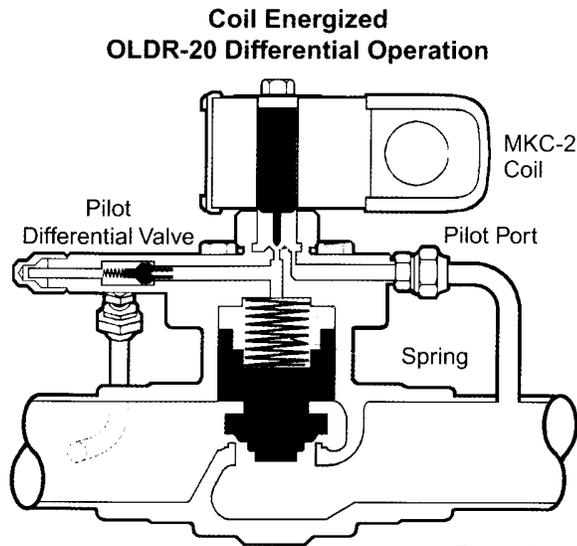

Figure 1
**In the differential mode**, the pilot differential valve controls the valve by varying the pressure on top of the main piston. Inlet pressure enters the pilot assembly through an external tube connected to the inlet fitting. The outlet of the pilot differential valve is connected to the outlet fitting with an external tube. The valve will open only as far as necessary to maintain the pilot valve setting. The pilot valve modulates the piston from partially open to partially closed to maintain its setting. *(See Figure 1 on page 10-2.)*